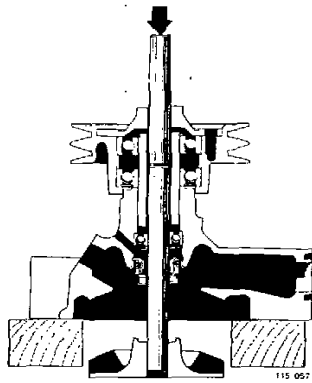

Fig. 194. Removing the fan hub
2. Place the pump as shown in fig. 194 and knock out the pump shaft downwards until the hub (or flange) is free, using a  $\varnothing$  14 mm (1/2") drift.